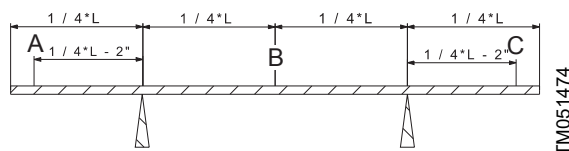

Fig. 7 Checking the shaft straightness
1. Set a pair of rollers or V-blocks on a firm base next to the pump site to support one shaft section. See fig. 7.